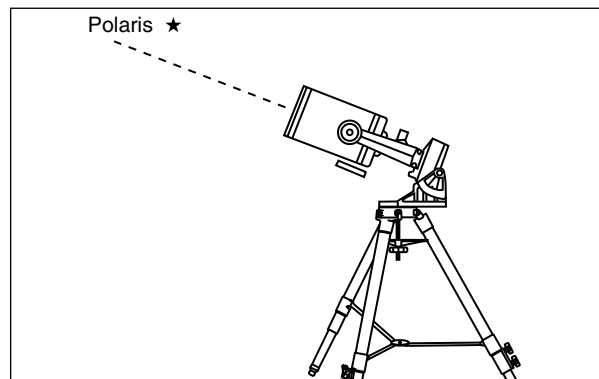

Fig. 24: Mount too low.
- If the star drifts South, (or down) the telescope's polar axis is pointing too low (Fig. 24).